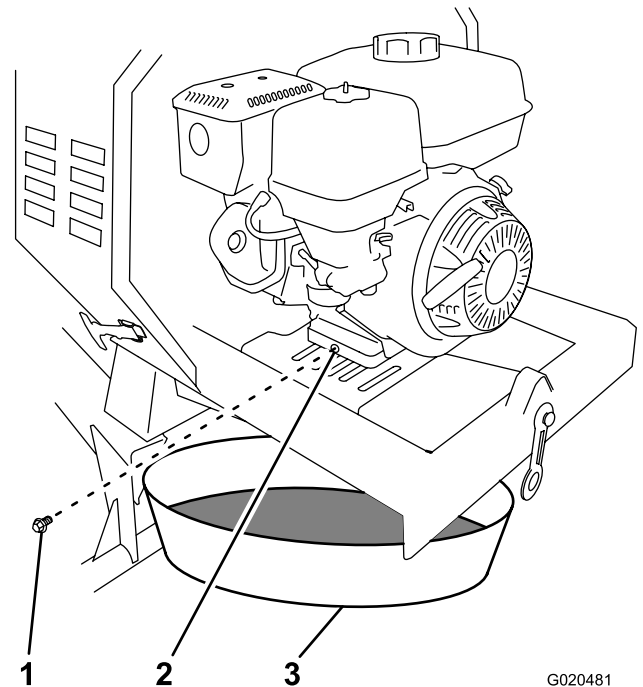

Figure 42
3. Place a drain pan under the oil drain hole of the engine (Figure 42).
4. Remove the drain plug and catch the oil in the oil drain pan (Figure 42).
5. When the oil has drained completely, install the drain plug with a new washer (Figure 42).